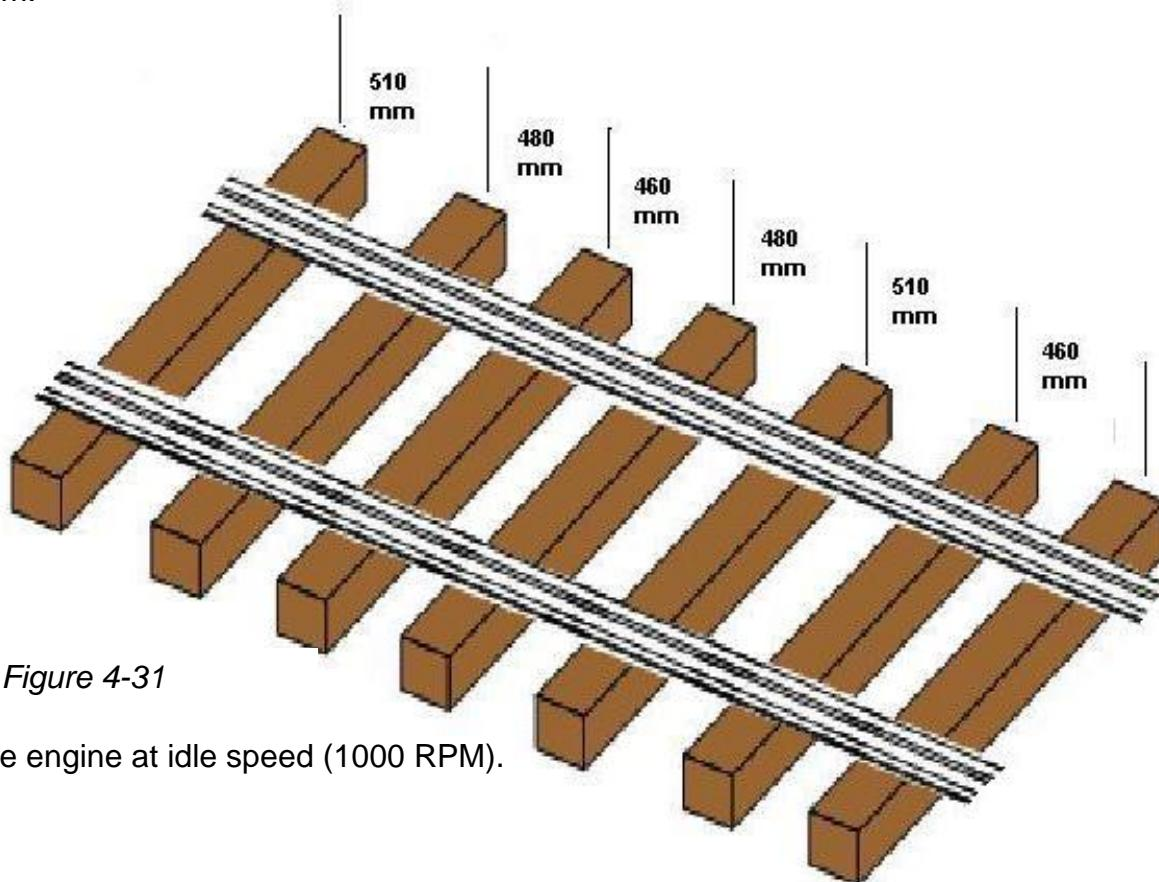

Figure 4-31
1. Determine the average spacing between the centers of the ties at the work site. Refer to figure 4-31. Using the average spacing from fig. 4-31, the workhead opening should be 483 mm.